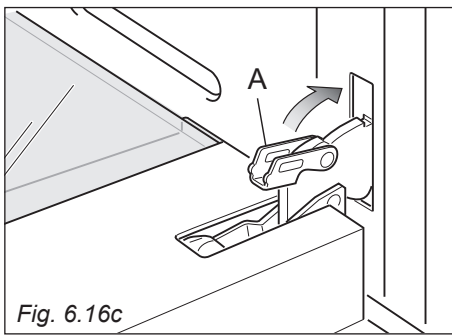

Fig. 6.16c
4. Fully close the levers "A" on the left and right hinges, as shown in the figure 6.16c.